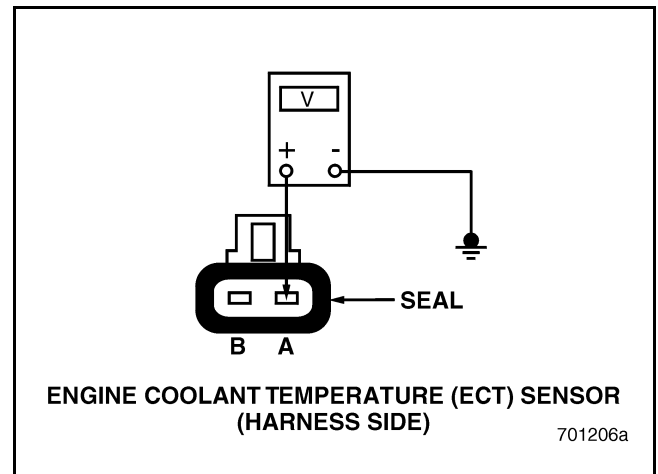

Figure 147
5. Measure the voltage at pin A of the ECT Sensor harness connector (see Figure 147). If the measured voltage is between 4.5 and 5.5 volts, check the ECT Sensor harness connector for deformed pins or insufficient contact with the ECT Sensor pins. If the pins are not damaged, replace the ECT Sensor. If the measured voltage is less than 4.5 volts, go to test "Test 82 — Checking for a Short Circuit at the EECU Connector" on page 141.